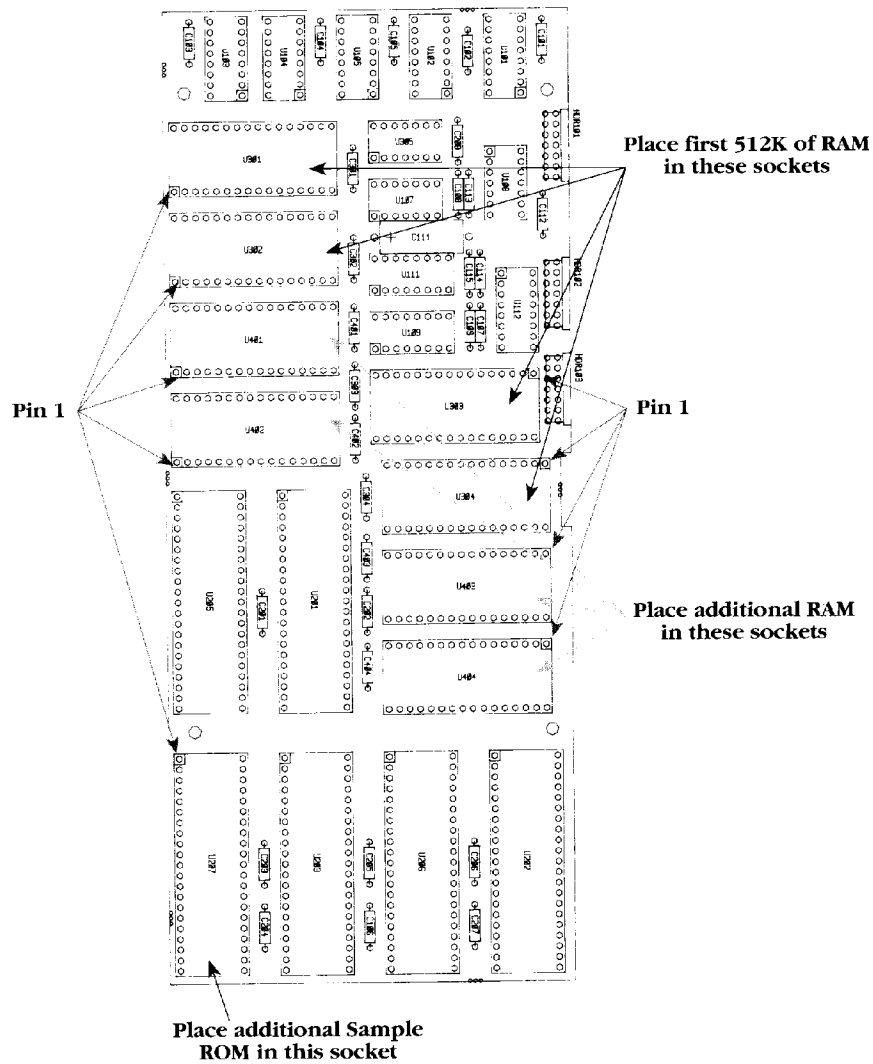

Figure 2
- 6. The DPM 4 Memory Board comes with eight sockets that can hold a total of 1 megabyte of RAM. To install 1 megabyte of RAM, the installation of eight RAM ICs is required, to install 512K, four RAM ICs are required. Refer to *figure 2* for the socket locations used for installing RAM ICs.
- 7. The DPM 4 Memory Board comes with 10 megabytes of Sample ROM pre-installed. An empty socket is provided for future expansion of sample memory (via a two-megabyte IC—resulting in a total of twelve megabytes of Sample ROM). Refer to *figure 2* for the proper location of the two-megabyte Sample ROM IC.